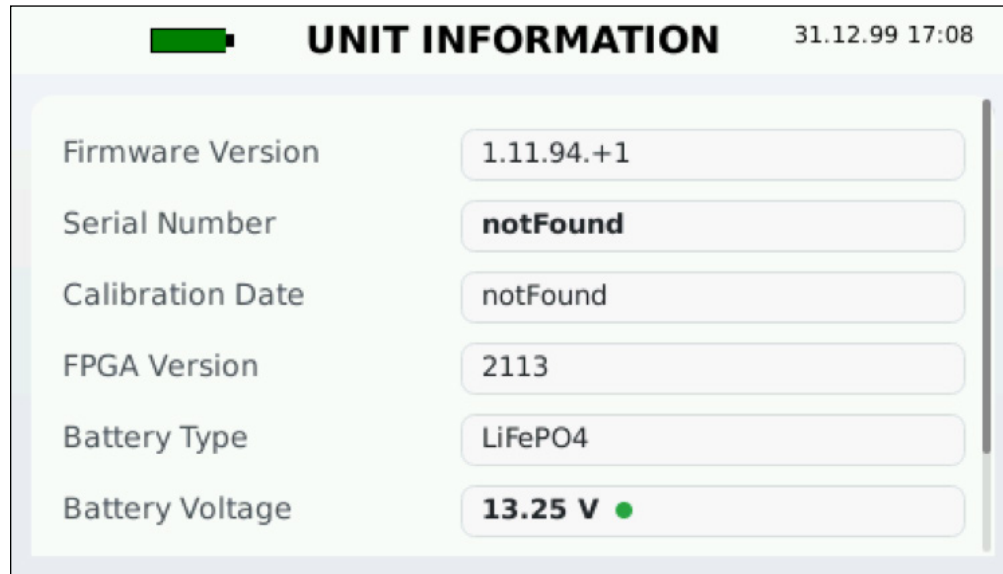

Figure 31
2. The Unit Information screen (*Figure 31*) displays the following information: